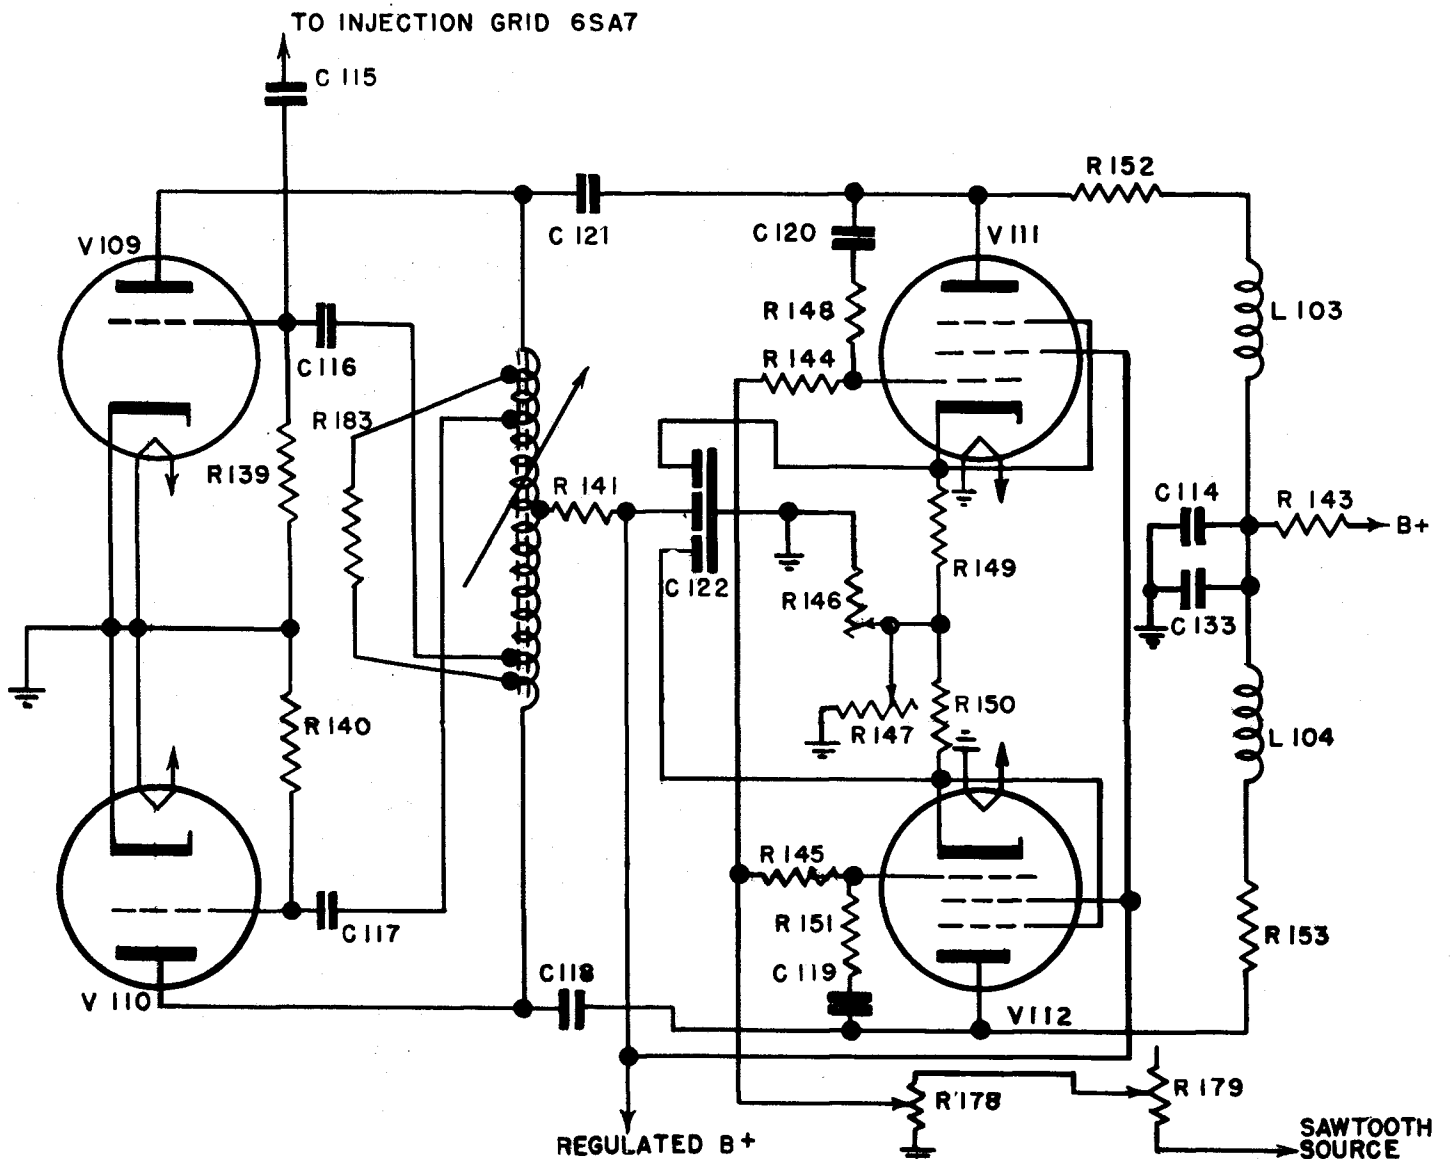

Figure 4-6. - Navy Model RDP, Circuit Diagram of Push-pull Oscillator and Reactor.
The schematic of the reactor and oscillator circuits, which are shown in Figure 4-6, can be represented by the block diagram in Figure 4-7.
- (1) R is R148 or R151 in Fig. 4-6
- (2) R and Cgk make up the phasing network
G_m is a tube constant whose value may be changed by varying the voltage between the control grid and cathode. However, from the formula it may be seen that any variation of G_m affects the value of L. Therefore, any change of grid bias will affect the inductive value of the reactor. Hence, in Figure 4-6, R146 and R147, the CENTER FREQ control and the CENTER FREQ. PAD respectively, are used to vary the bias or operating points of the reactor tubes, thus affecting the average inductance of the oscillator tank and, consequently, the oscillator mean frequency. Adjustment of R178 and R179, the SWEEP control and SWEEP PAD respectively, determines the amplitude of the sawtooth voltage applied between the control grids and cathodes of the two reactor tubes and consequently the magnitude of the swing in inductance of the reactor. The magnitude of this inductance swing, in turn, determines the magnitude of the oscillator swing.